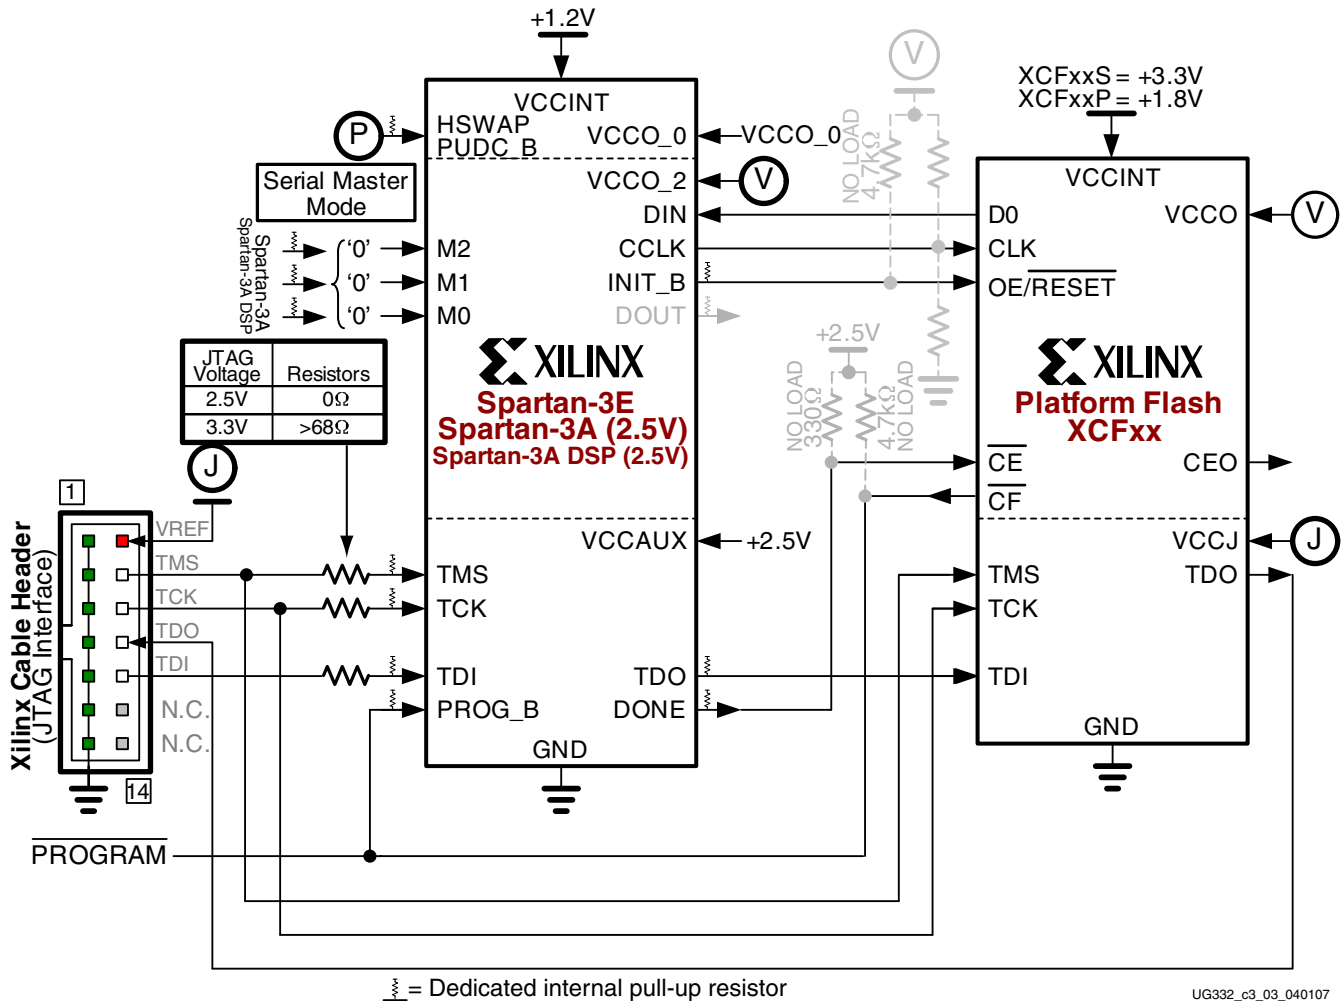
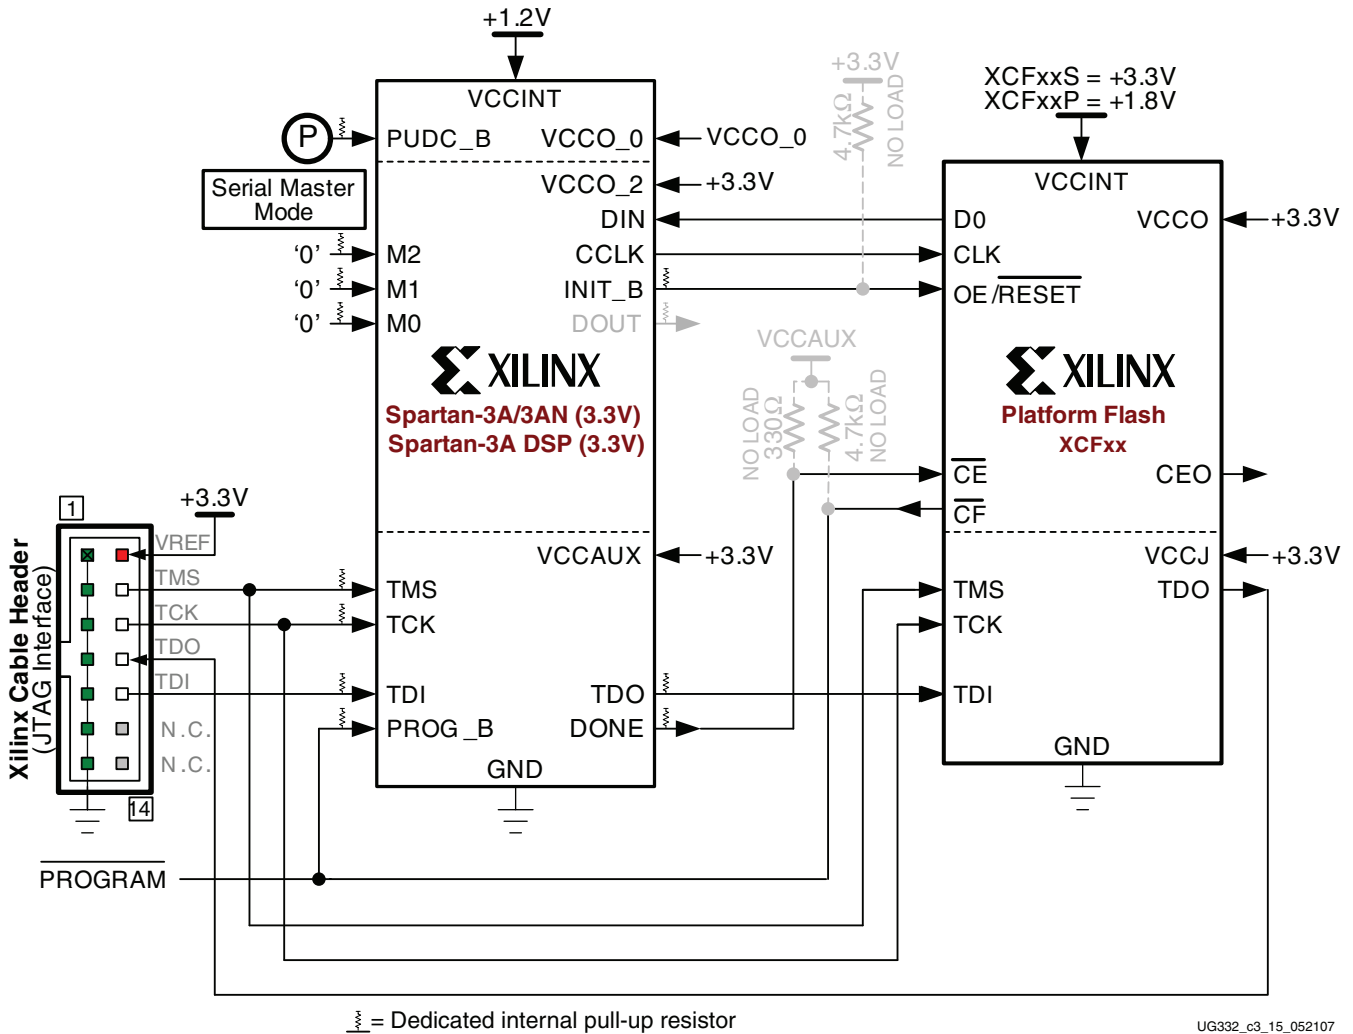
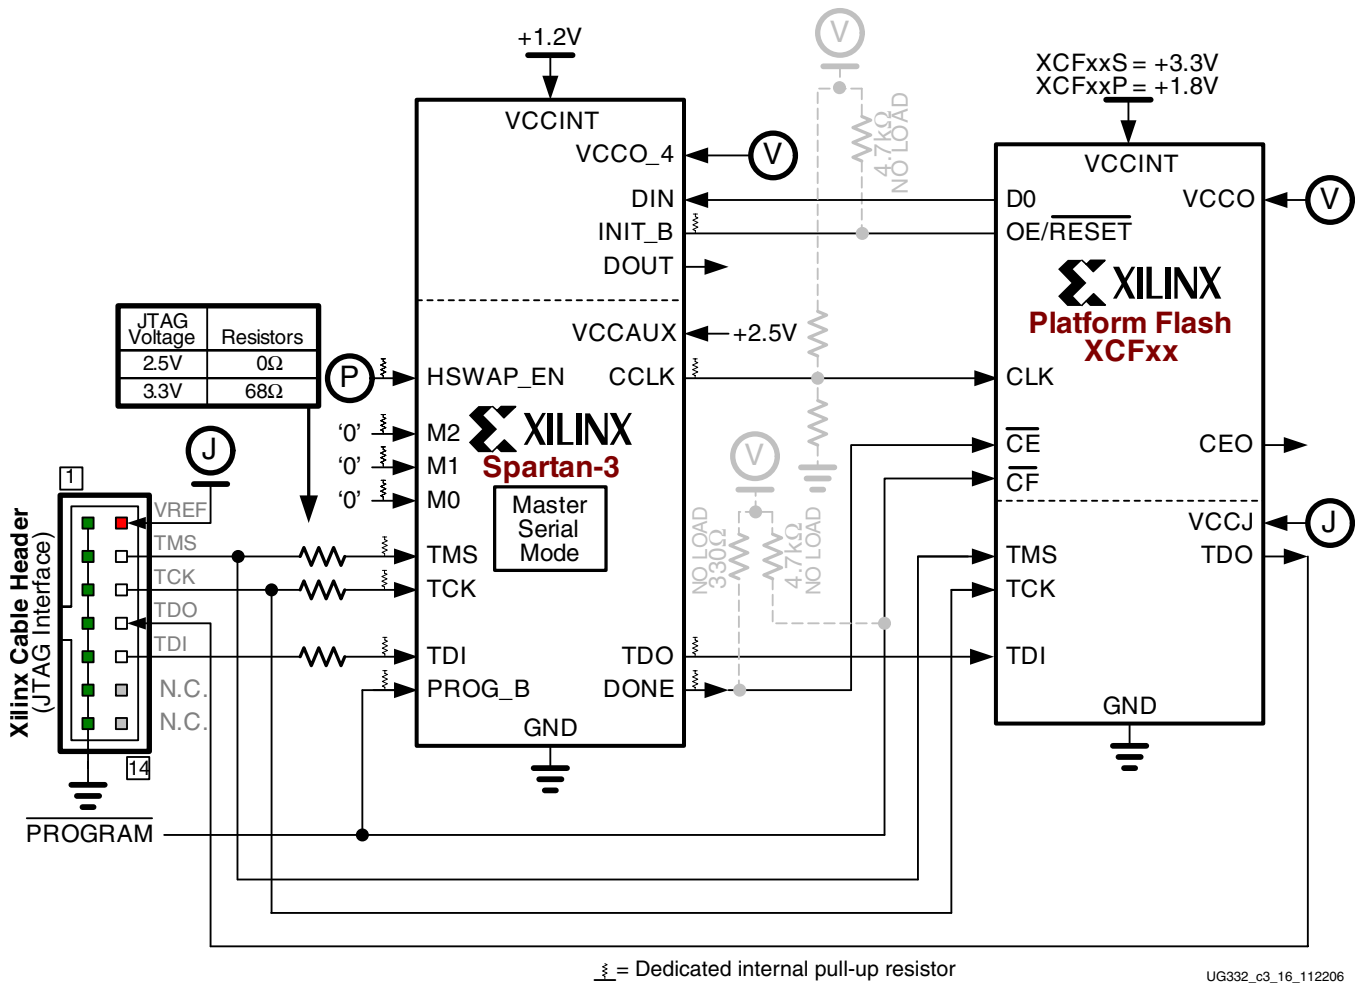

Figure 3-1: Master Serial Mode Using Platform Flash PROM (Spartan-3E or Spartan-3A/3A DSP FPGA, V_{CCAUX} = 2.5V)
Figure 3-2: Master Serial Mode Using Platform Flash PROM (Spartan-3A/3AN/3A DSP FPGA, $V_{CCAUX} = 3.3V$)
Figure 3-3: Master Serial Mode Using Platform Flash PROM (Spartan-3 FPGA)
In Master Serial mode ($M[2:0] = <0:0:0>$), the Spartan-3 Generation FPGA configures itself from an attached Xilinx Platform Flash PROM, as illustrated in Figure 3-1, Figure 3-2, and Figure 3-3. The figures show optional components in gray and designated “NO LOAD”. The FPGA supplies the **CCLK** output clock from its internal oscillator to the attached Platform Flash PROM. In response, the Platform Flash PROM supplies bit-serial data to the FPGA’s **DIN** input, and the FPGA accepts this data on each rising **CCLK** edge.
- Figure 3-1, page 64 illustrates the Master Serial configuration interface for Spartan-3E and Spartan-3A/3A DSP FPGAs when the FPGA’s V_{CCAUX} supply is at 2.5V. Spartan-3E FPGAs always have $V_{CCAUX} = 2.5V$. Spartan-3A and Spartan-3A DSP FPGAs support both $V_{CCAUX} = 2.5V$ or 3.3V. Table 3-1, page 64 lists the FPGA/PROM connections.
- Figure 3-2, page 65 illustrates the Master Serial configuration interface for Spartan-3A/3AN/3A DSP FPGAs when $V_{CCAUX} = 3.3V$. Spartan-3AN FPGAs always have $V_{CCAUX} = 3.3V$. Table 3-1, page 64 lists the FPGA/PROM connections.
- Figure 3-3, page 66 illustrates the Master Serial configuration interface for Spartan-3 FPGAs.